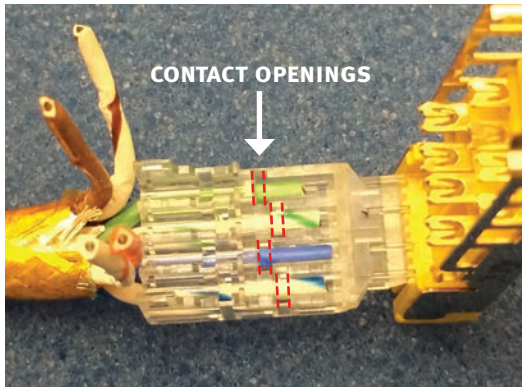

Figure 11: Wires inserted in position in bottom row
9. Ensure the bottom row of wires are inserted well past the opening for the contacts (Figure 11).